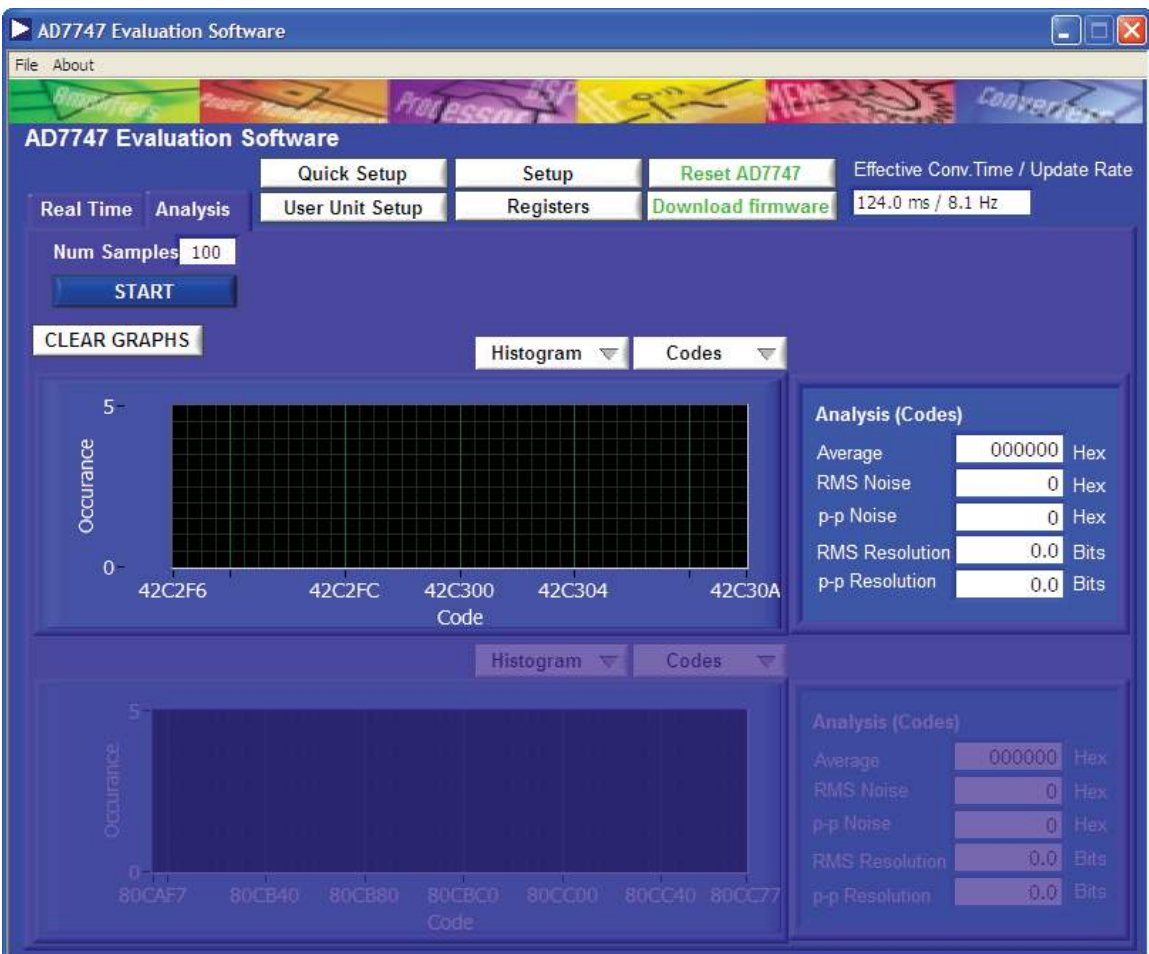

Figure 8. Analysis Tab
1. With the quick setup for capacitive Channel 1 still in place, select the **Analysis** tab to display analysis options (shown in Figure 8).